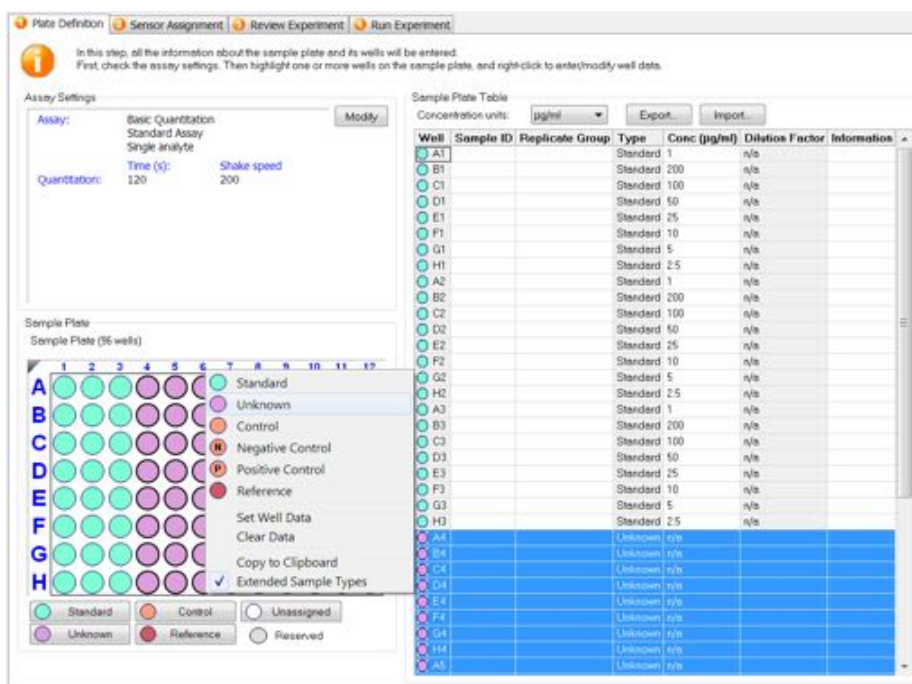

Figure 6-9: Plate Definition Window—Designate Unknown Wells
To designate unknowns in the **Sample Plate Map**, select the wells to define as unknown, right-click and select **Unknown**. The unknown wells are marked in the plate map and the sample plate table is updated (see Figure 6-9).
1. In the **Sample Plate Map**, select the unknown wells (see Figure 6-9).